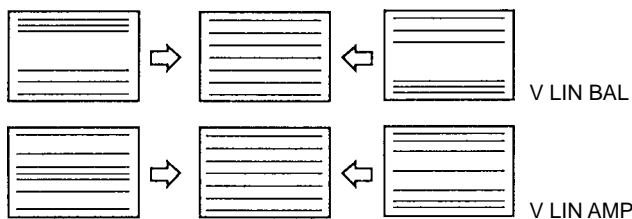

Fig. 1-8
8. Adjust the VSIZE, V LIN BAL, and V LIN data as shown in Fig. 1-8.